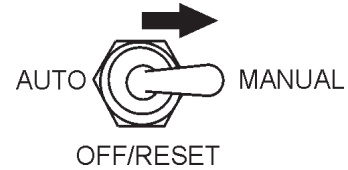

Figure 30. MPEC Control Switch (Manual Position)
1. Place the **MPEC Control Switch** in the **MANUAL** position to start the engine (Figure 30).